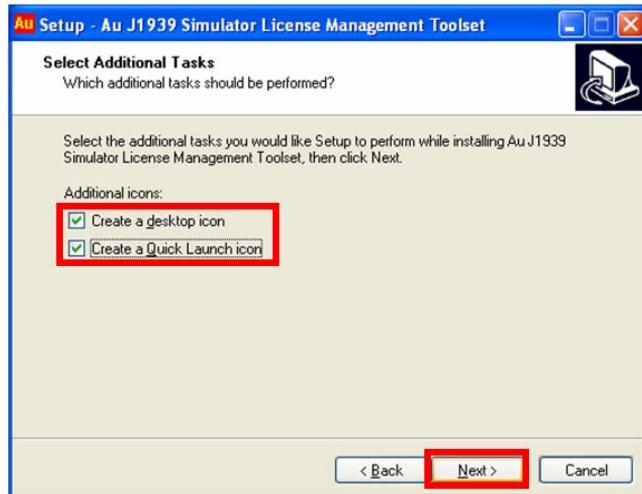

Figure B-6
6. “Select Additional Task” window shows up, check both “create a desktop icon” and “Create a quick launch icon”, then click “next” (Figure B-6)